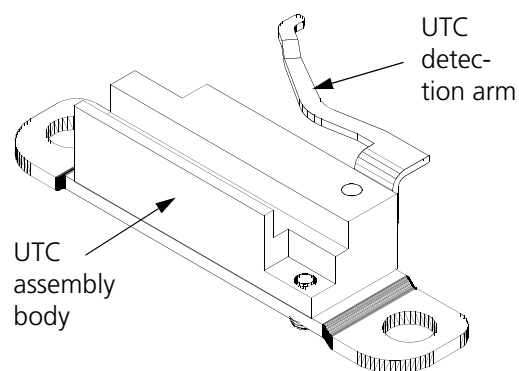

Figure 4-5
- With the correct gap between the retaining tab of the UTC and the basket of the hook verified with the UTC combination gauge, check for a clearance of between 0.008 to 0.012 inches between the UTC detection arm (shown in Figure 4-5) and the needle.